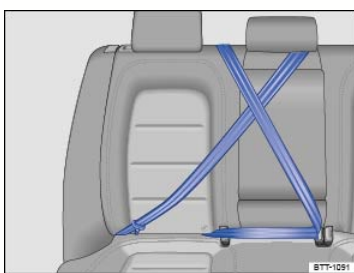

Fig. 45 Keep unused safety belts away from children in child restraints.
You must take special precautions when installing a LATCH/UCRA child restraint behind the front passenger or driver seats. Always route the center safety belt and the unused safety belt for the seating position where the child restraint is being installed securely out of the child's reach. Securing the safety belts will help prevent a child from playing with an unused safety belt and becoming entangled with it → Fig. 45.
- Route the safety belt around the head restraint for the center seating position → Fig. 45.
- Buckle the safety belt → Fig. 45.
You must take special precautions when installing a child restraint with the vehicle safety belt or with LATCH/UCRA lower universal anchorages behind the front passenger seat or behind the driver seat. Always route the center safety belt and the unused safety belt for the seating position where the child restraint is being installed securely out of the child's reach. Securing the safety belts will help prevent a child from playing with an unused safety belt and becoming entangled with it ⇒ *Using a child restraint on the rear seat*, ⇒ Fig. 45.
You must take special precautions when installing a child restraint with the vehicle safety belt or with LATCH/UCRA lower universal anchorages behind the front passenger seat or behind the driver seat. Always route the center safety belt and the unused safety belt for the seating position where the child restraint is being installed securely out of the child's reach. Securing the safety belts will help prevent a child from playing with an unused safety belt and becoming entangled with it ⇒ Using a child restraint on the rear seat , ⇒ Fig. 45.